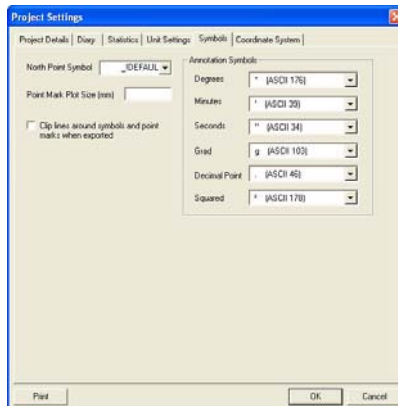

Figure 8-8. Project Settings – Symbols Tab
2. On the *Symbols* tab (Figure 8-8 on page 8-9), modify each field as necessary.